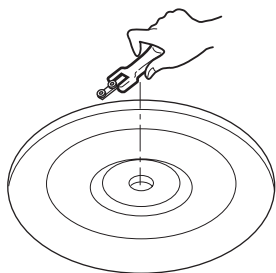

Figure 19
- (1) Remove the glass tray and rotating ring.
- (2) Remove the turntable shaft VERY CAREFULLY by hand. (Figure 19)